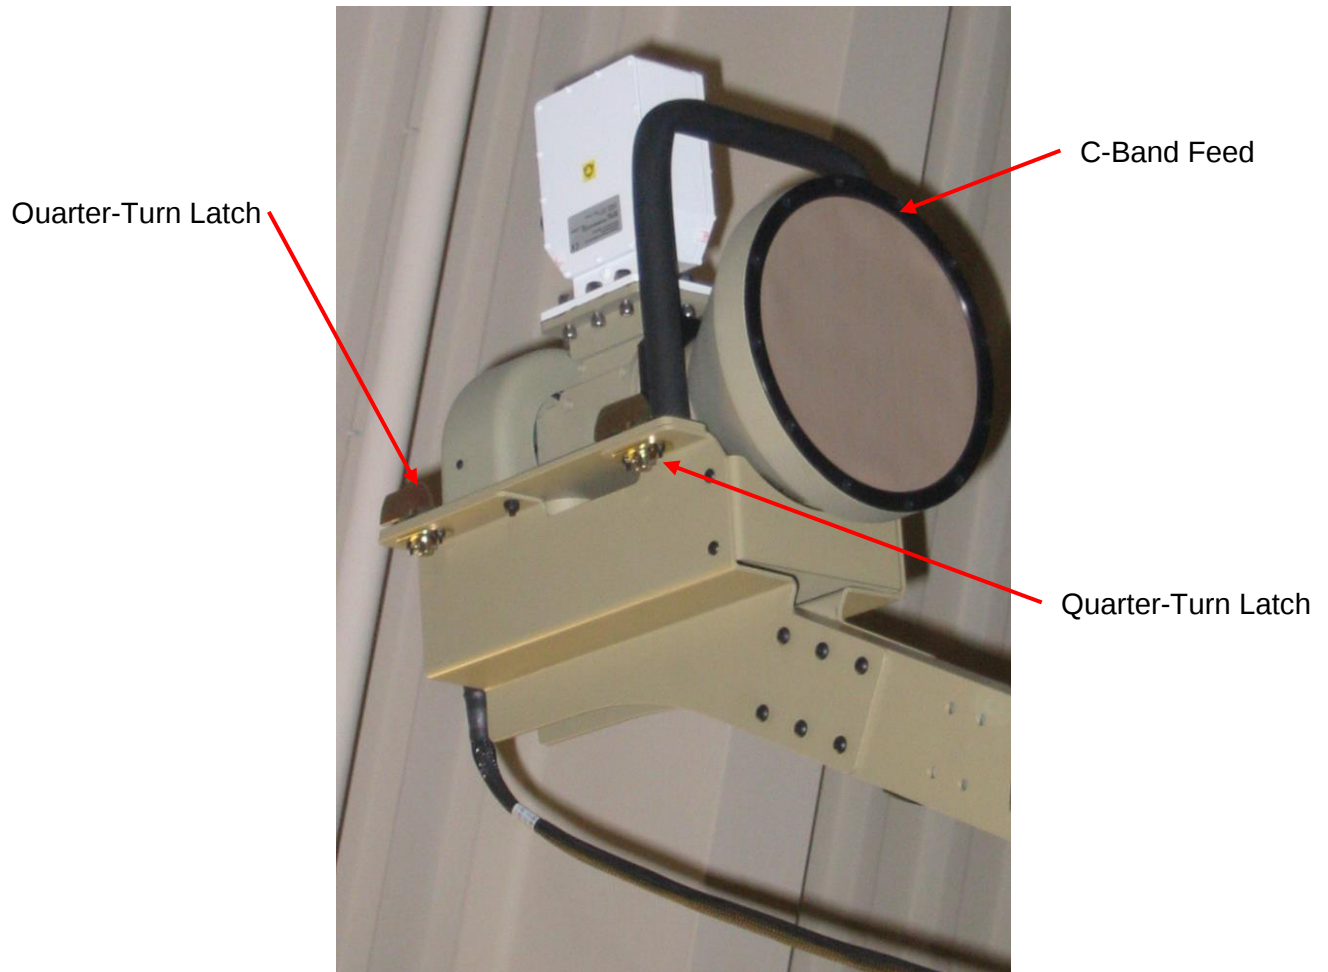

Figure 30. Attachment of C-Band Feed to Feed Boom
8. Attach the feed assembly to the end of the feed boom using 4 quarter-turn latches as shown in Figure 30.